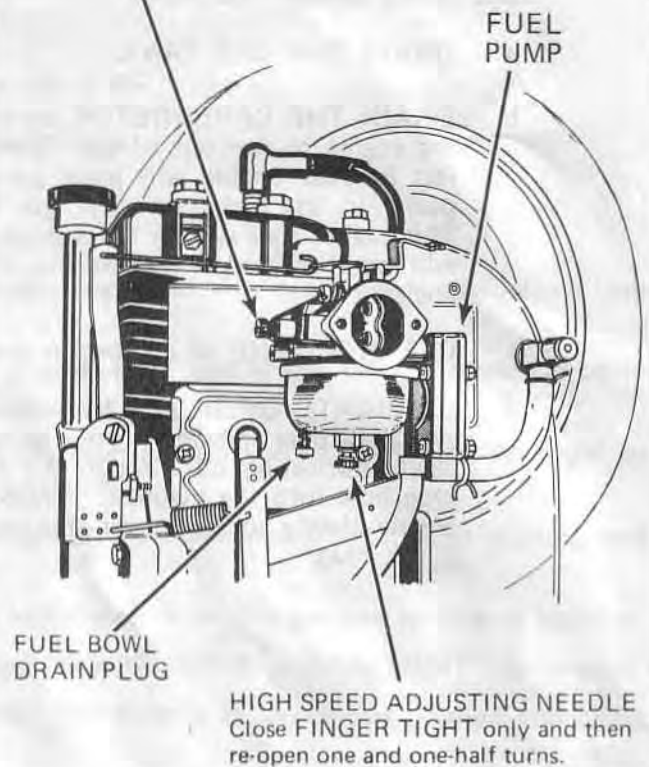

FIGURE 3
- 1 After making initial adjustments as shown below (Fig. 3) start engine.